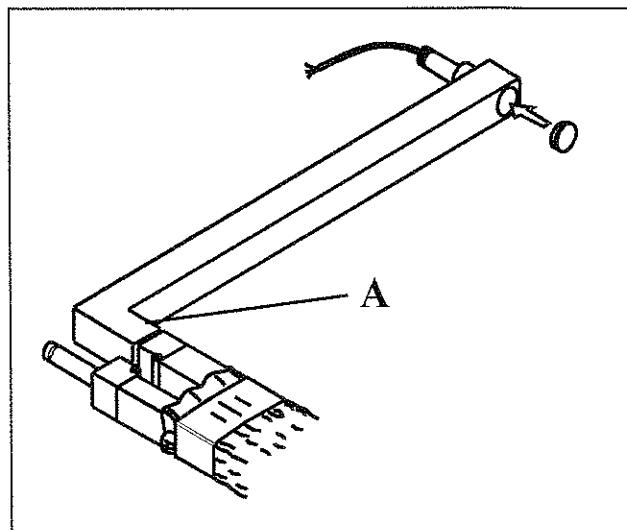

Figure 11 Arm assembly - 4
- d) Plug hole "26" (plastic plug) (Figure 11).
- e) Adjust extension arm friction ("A" Figure 11, page 24) by means of a 4mm exagonal wrench and check arm rotation.